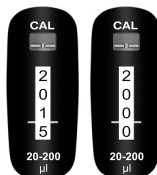

Fig. 3
with which you rotate the adjustment knob (fig. 1B), so as not to exceed the value (fig. 3).
- If the required volume is higher than the volume set on the counter it is necessary to increase indications of the counter to the value which exceeds the required volume by rotating the bottom drum by about 1/3 of its circumference. Then, by slowly rotating the adjustment knob (fig. 1B), reduce the setting to the required value (fig. 3).